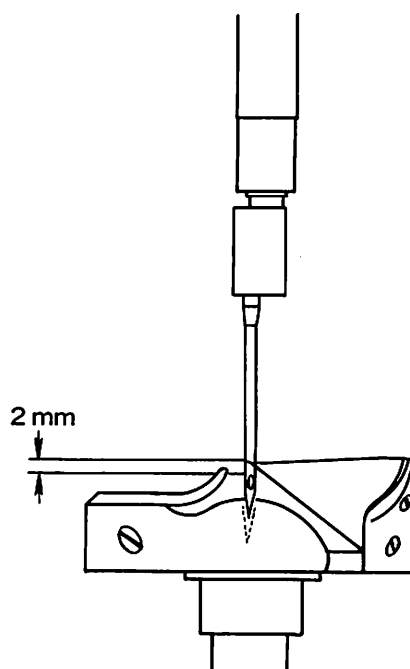

Fig. 30
- V. Turn handwheel toward you allowing needles to rise. When the rotating hook point crosses the centerline of the rising needle, it should be 2 mm (5/64") above the upper end of the eye of the needle. Adjust if necessary. (Fig. 30)